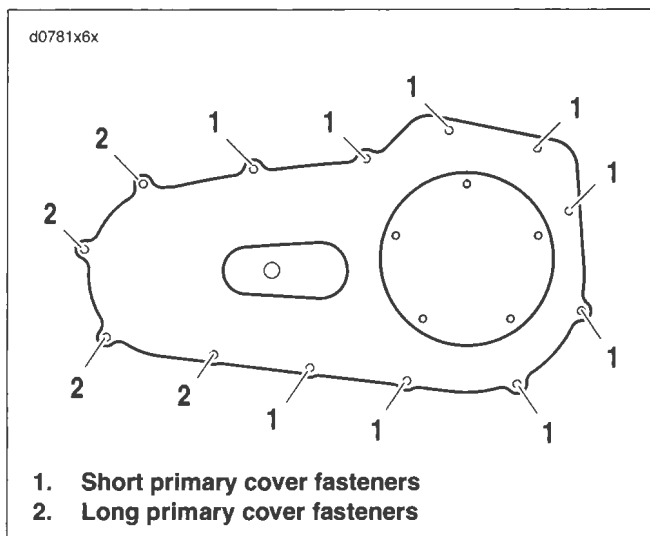

Figure 6-1. Primary Chaincase Cover
3. See Figure 6-1. When lubricant has drained, remove short (1) and long (2) cover fasteners and cover.
2. See Figure 6-1. Install short (1) and long (2) primary cover fasteners in positions shown. Snug fasteners.